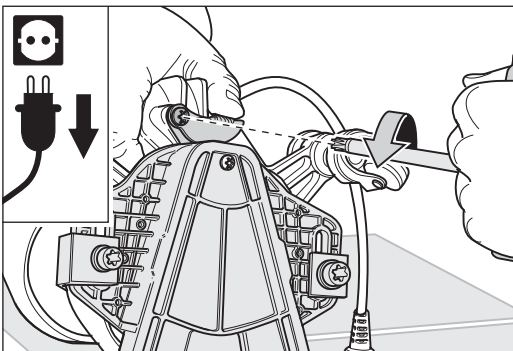

Fig. 31 Undo the screw which attaches the belt tightening plate.
- 5 Use the universal spanner to undo the screw which attaches the belt tightening plate (Fig. 31).